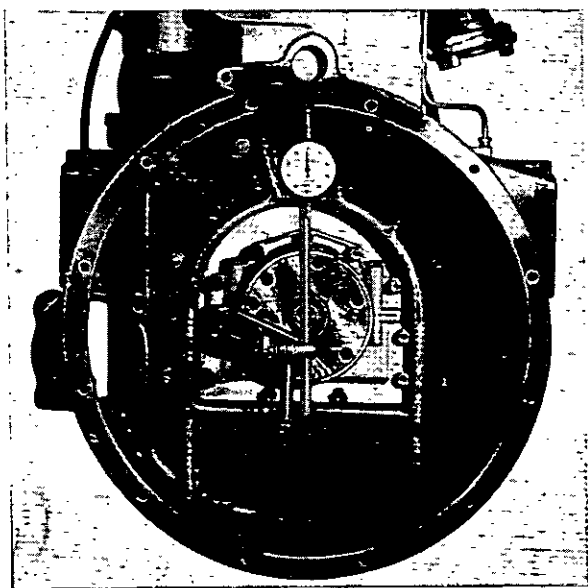

Fig. N.3.
- Check concentricity (Fig. N.3). The inner bore of the flywheel housing must be central within the limits listed on Page N.3.